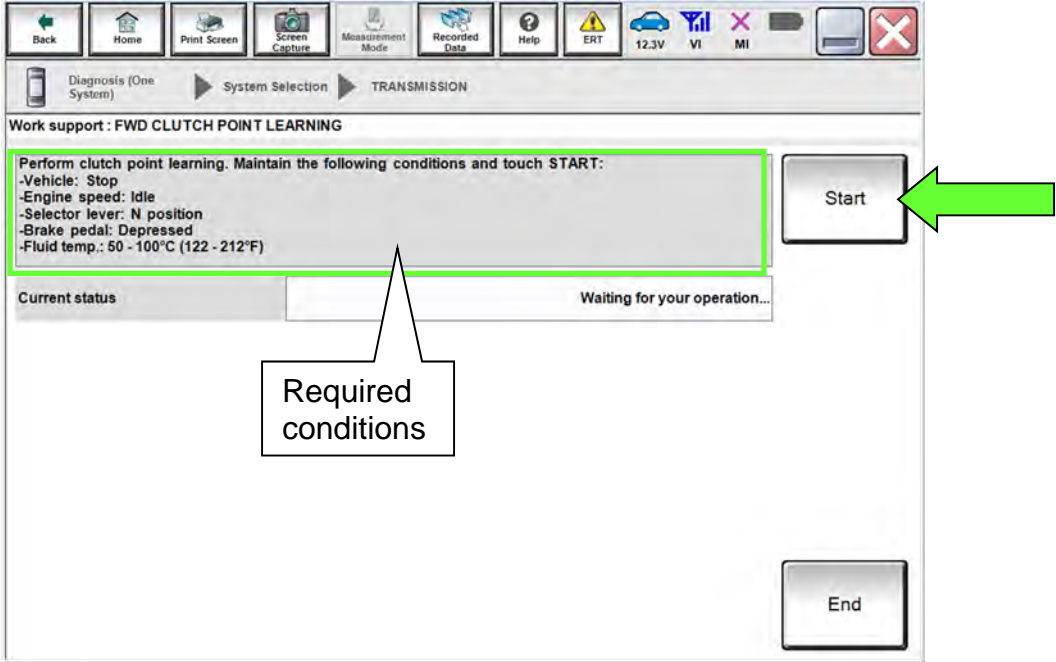

Figure 205
- Confirm that all of the conditions indicated in Figure 205 are being met.
200. While maintaining all conditions shown in Figure 205 and the Current status indicates “EXECUTING”, shift the CVT into **R** and then wait until the Current status indicates COMPLETED.